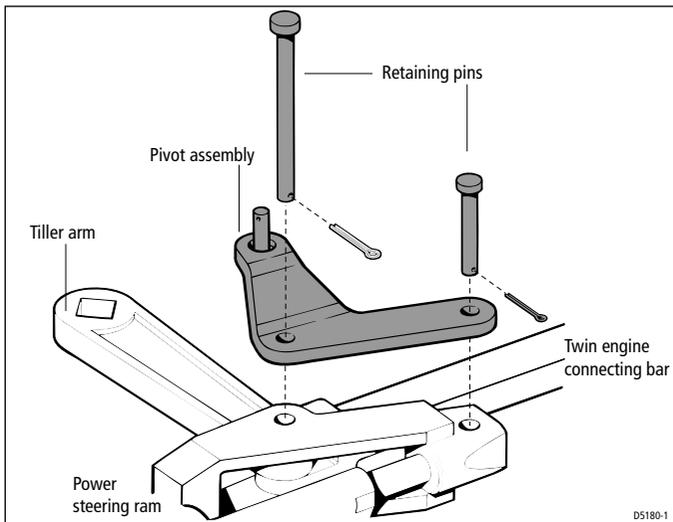

Figure 10: Fitting the pivot assembly (Mercuriser 95)
2. Fit the pivot assembly to the steering system as shown in *Figure 10*: